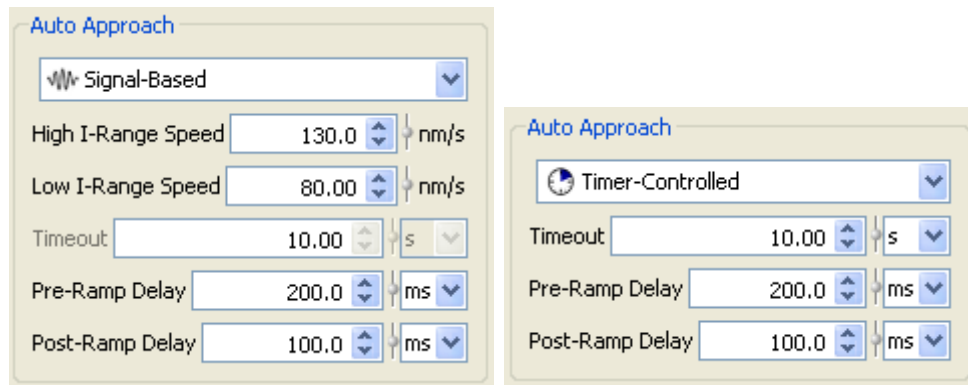
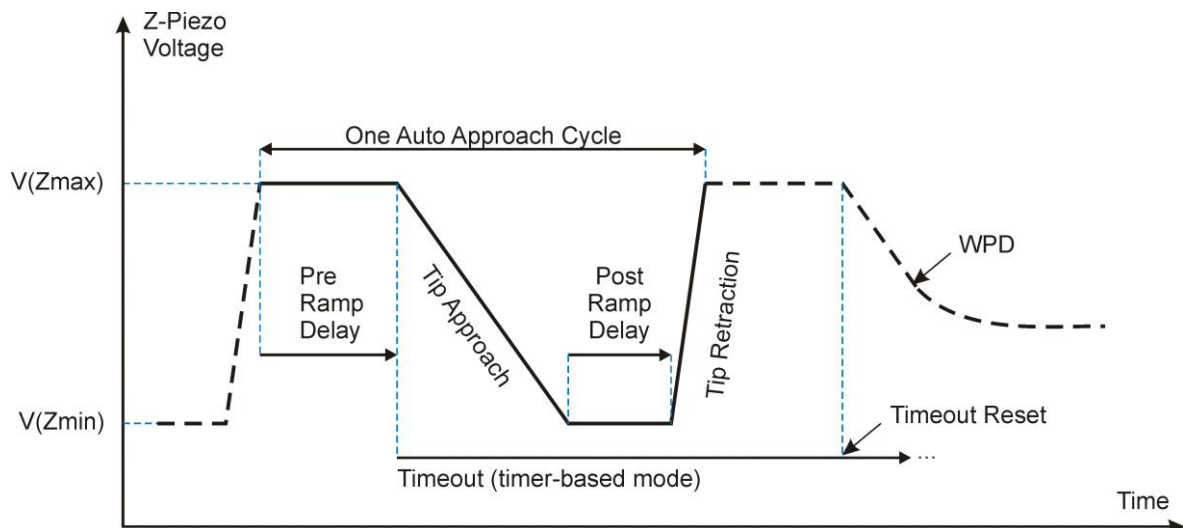

Figure 23. *Auto Approach* settings for STM (left) and AFM (right) experiments.
Figure 25. Auto Approach times, schematic diagram. WPD = working point detected.
- *Timer-Controlled*: in this strategy the feedback loop is also active all the time. Here the *Auto Approach* stops if, at the end of the timeout period (see figure 23 on page 38), the tip has still not reached the end of the ramp. It will then be assumed that a working point has been detected (WPD) along the ramp as shown in figure 25 on page 40. Note that the timeout timer is restarted with every tip approach ramp. This is the default mode in AFM experiments.
- If no feedback signal is detected, the tip (or sample) is retracted with a retraction speed of 10 mm/s by the fine control Z-piezo. For a timing diagram see figure 25 on page 40.
- The tip is then again ramped towards the sample by the fine control Z-piezo. If no working point is detected (WPD in figure 25 on page 40), this sequence will be repeated automatically.